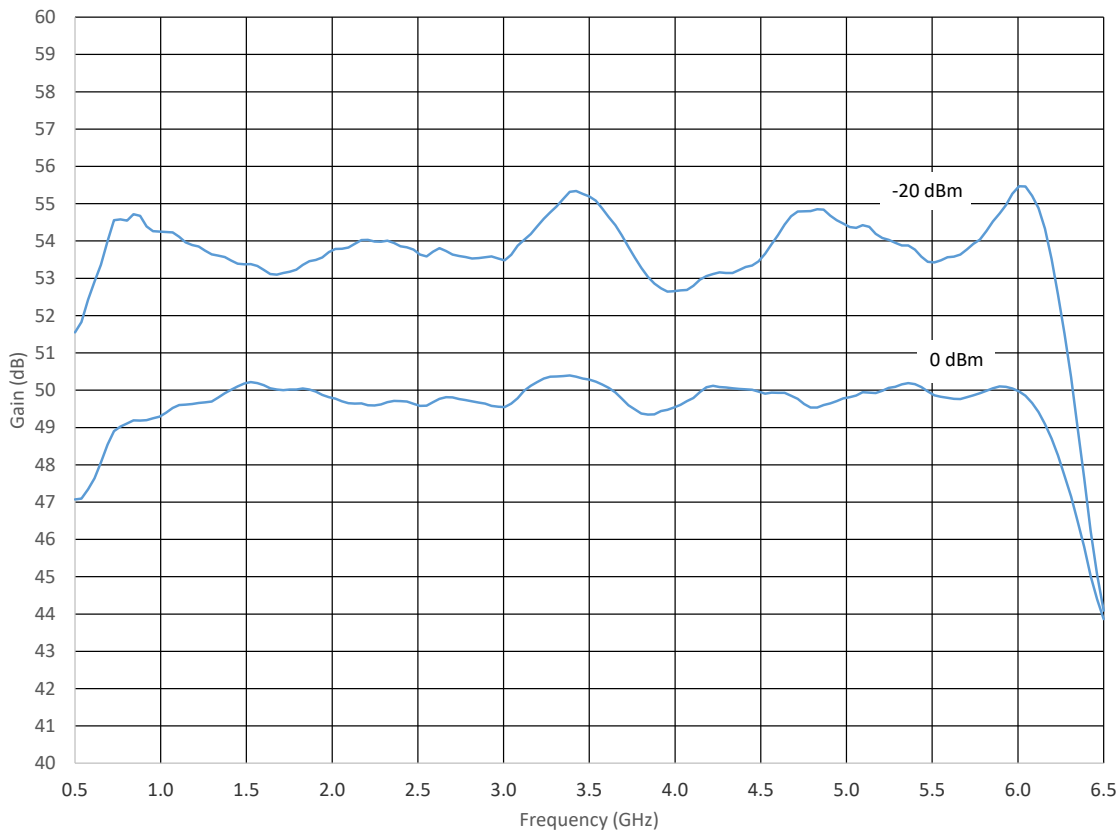

Figure 4-1. Typical Response at 0 dBm Input and -20dBm Input
1. The Model 60S1G6's typical gain response at 0 dBm input and -20 dBm input is shown in Figure 4-1. The actual gain may vary considerably from that shown in Figure 4-1 but should be ≥ 47 at 0dBm input and $\geq 0V$ at -20 dBm input. *NOTE: If the overall gain is low, the amplifier chain can be separated at the input of the A3 Splitter.*